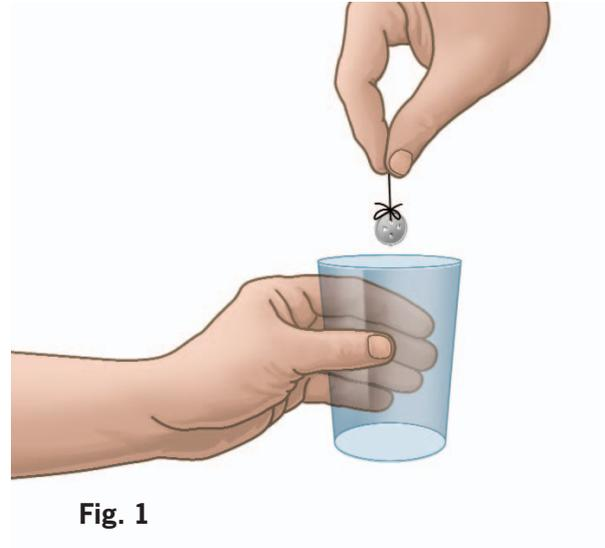

Fig. 1
2. While your partner holds the glass firmly on the table, dangle the button until it is balanced on the rim of the glass. You do not need to let go of the thread. You do need to let the thread go limp. (See fig. 1)